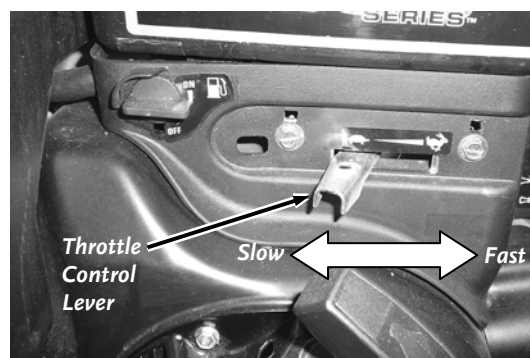

Figure 20
3. Ensure that the Throttle Control Lever is in the slow position (turtle icon) (**Figure 20**).